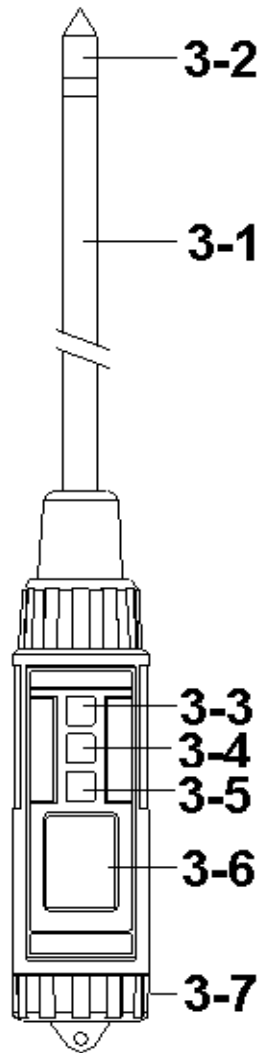

Fig. 1
- 1) Turn on the meter by pressing the " Power Button " (3-3, Fig. 1) momentarily.
** Press the " Power Button " (3-3, Fig. 1) momentarily again will turn off the meter.*
- 2) Insert the " Moisture sensing head " (3-2, Fig. 1) into the measured soil.
- * During the measurement, press the " Hold Button " (3-4, Fig. 1) momentarily to hold the measured value. The LCD will show a " HOLD " symbol.
- 1) The data record function records the maximum and minimum readings. Press the " REC Button " (3-5, Fig. 1) momentarily to start the Data Record function, shows " REC " on the display.
- a) Press the " REC Button " (3-5, Fig. 1) momentarily, the " REC MAX " symbol along with the maximum value will appear on the display.
- b) Press the " REC Button " (3-5, Fig. 1) momentarily again, the " REC MIN " symbol along with the minimum value will appear on the display.
** When display shows " REC MAX " or " REC MIN ", press the " Hold Button " (3-4, Fig. 1) momentarily will delete the max. (min.) value, the display will show the " REC. " only and execute the memory function continuously.*
- * To change the batteries, open (rotate clockwise direction) the " Battery Cover " (3-7, Fig. 1).
- * Make sure the " Battery cover " (3-7, Fig 1) is secured after changing the batteries.